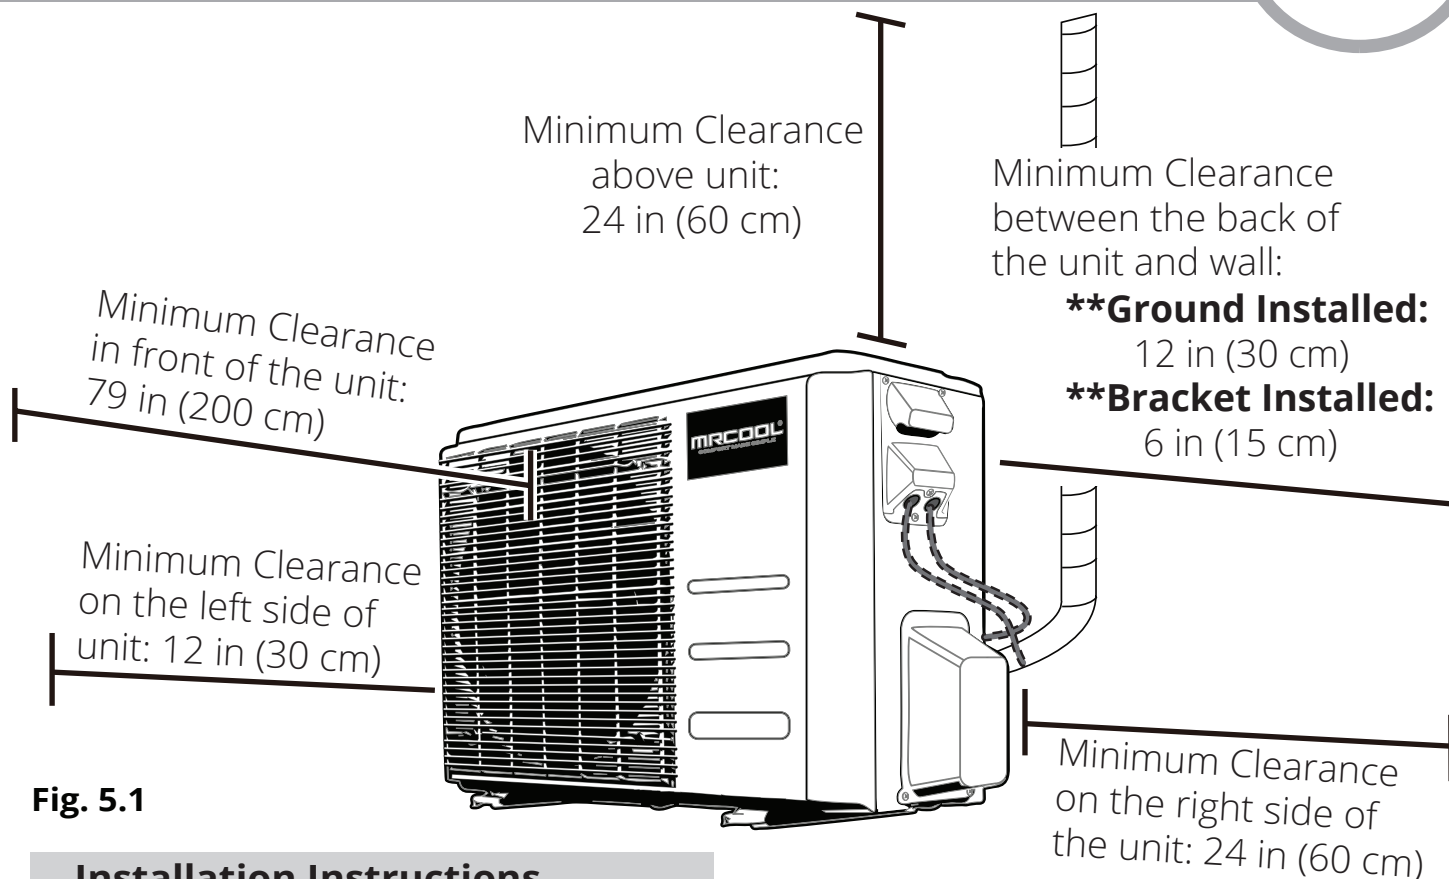

Fig. 5.1
- ✓ Meets all spatial requirements shown in in the illustration above (Fig. 5.1)